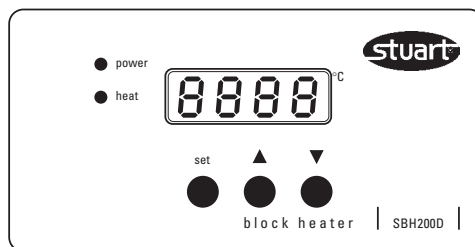

Figure 3 - digital controls
2. The “power” light will illuminate as will the digital display - see figure 3.
3. The digital display will show the actual temperature of the aluminium blocks. If the instrument’s current set temperature is above this value it will begin to heat and the “heat” light on the control panel will illuminate. The current set temperature may be viewed at any time by pressing and holding the “set” button – see figure 3.
5. This setting may be increased by pressing the button labeled ▲ or decreased by pressing the button labeled ▼ while continuing to press and hold the “set” button – see figure 3.